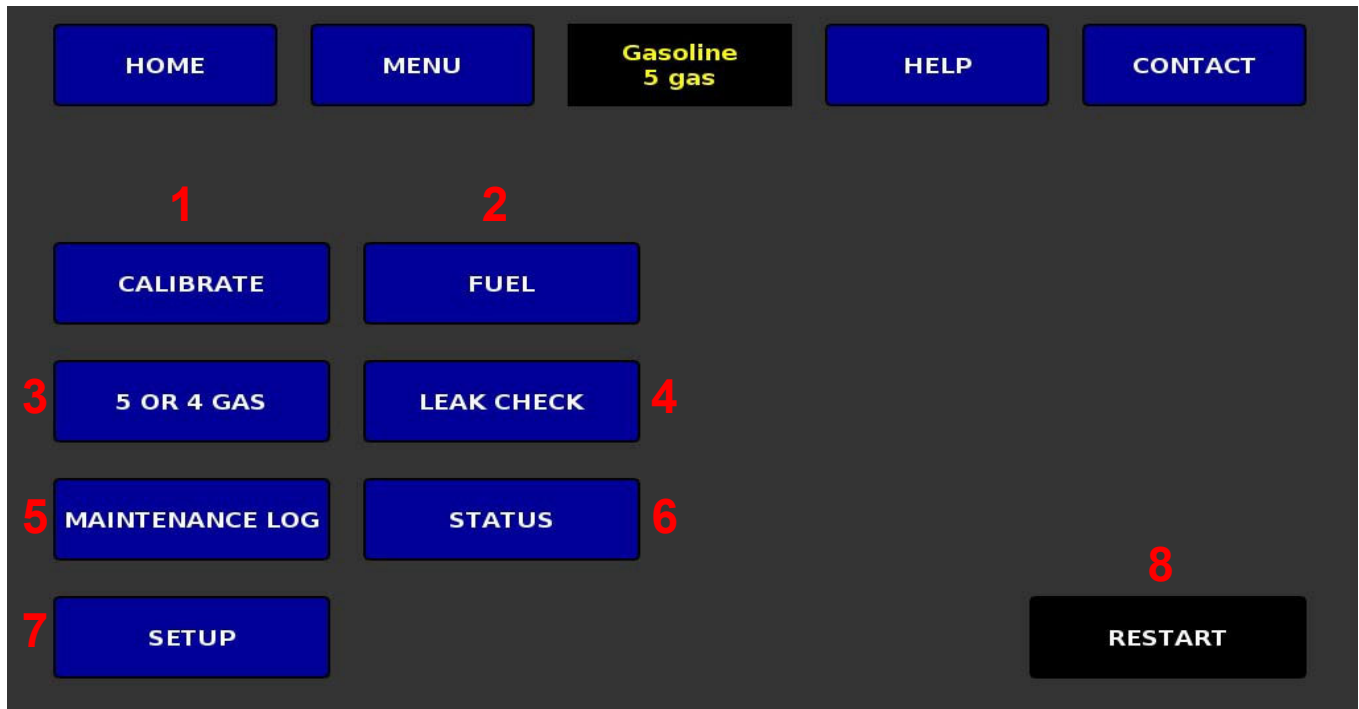
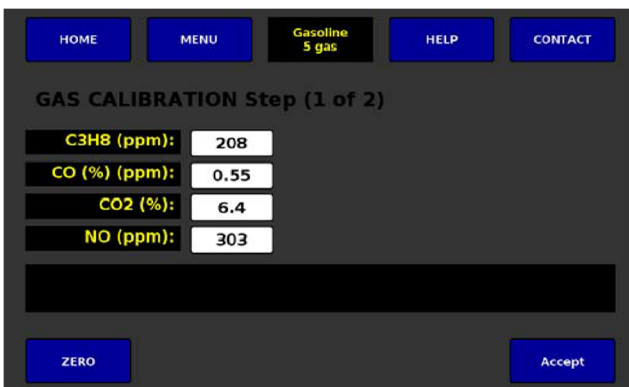
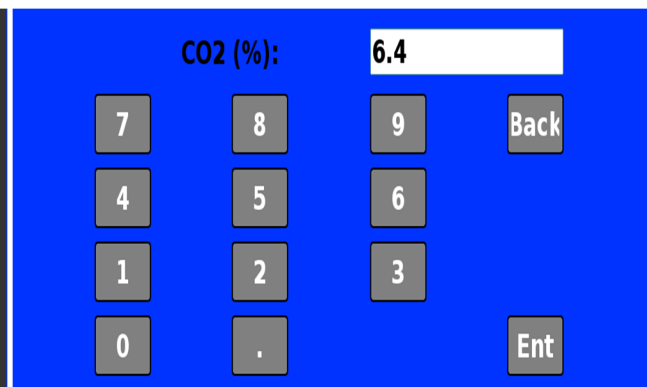

FIGURE 15
FIGURE 17
FIGURE 18
Figure 15 shows the control buttons on the MENU touch screen of the gas analyzer:
1. To begin the calibration procedure, depress the “Menu” button on the Home sampling screen. The main menu screen will show you the “Calibration” button (Figure 15). Press the “CAL” button and the display will go to the calibration screen and show the stored calibration gas values highlighted in white box (Figure 17). Compare these numbers to the calibration gas bottle. If the numbers do not match, change the values by pressing each gas value box. A key pad will open (Figure 18). Press Back to clear the value, and enter the new values for each gas as needed and press the Ent (enter) button. Once the values are changed press the “Accept” button. NOTE: In 4 Gas mode the NO_x window will not appear or be calibrated in the calibration routine.